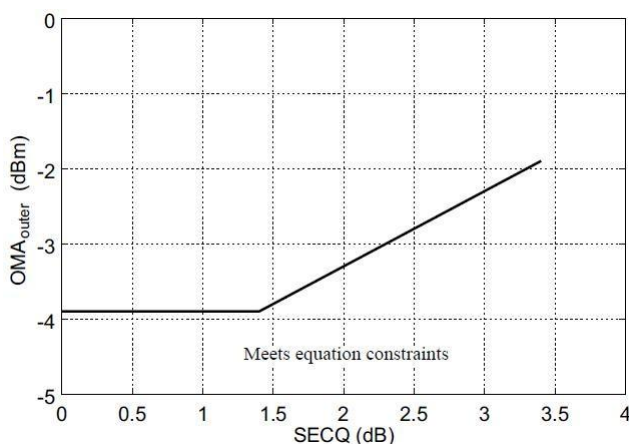

Figure 1. Illustration of Receiver Sensitivity Mask for 400G-DR4
6. Receiver sensitivity (OMA_{Outer}), each lane (max) is informative and is defined for a transmitter with a value of SECQ up to 3.4 dB. It should meet Equation (1), which is illustrated in Figure 1.